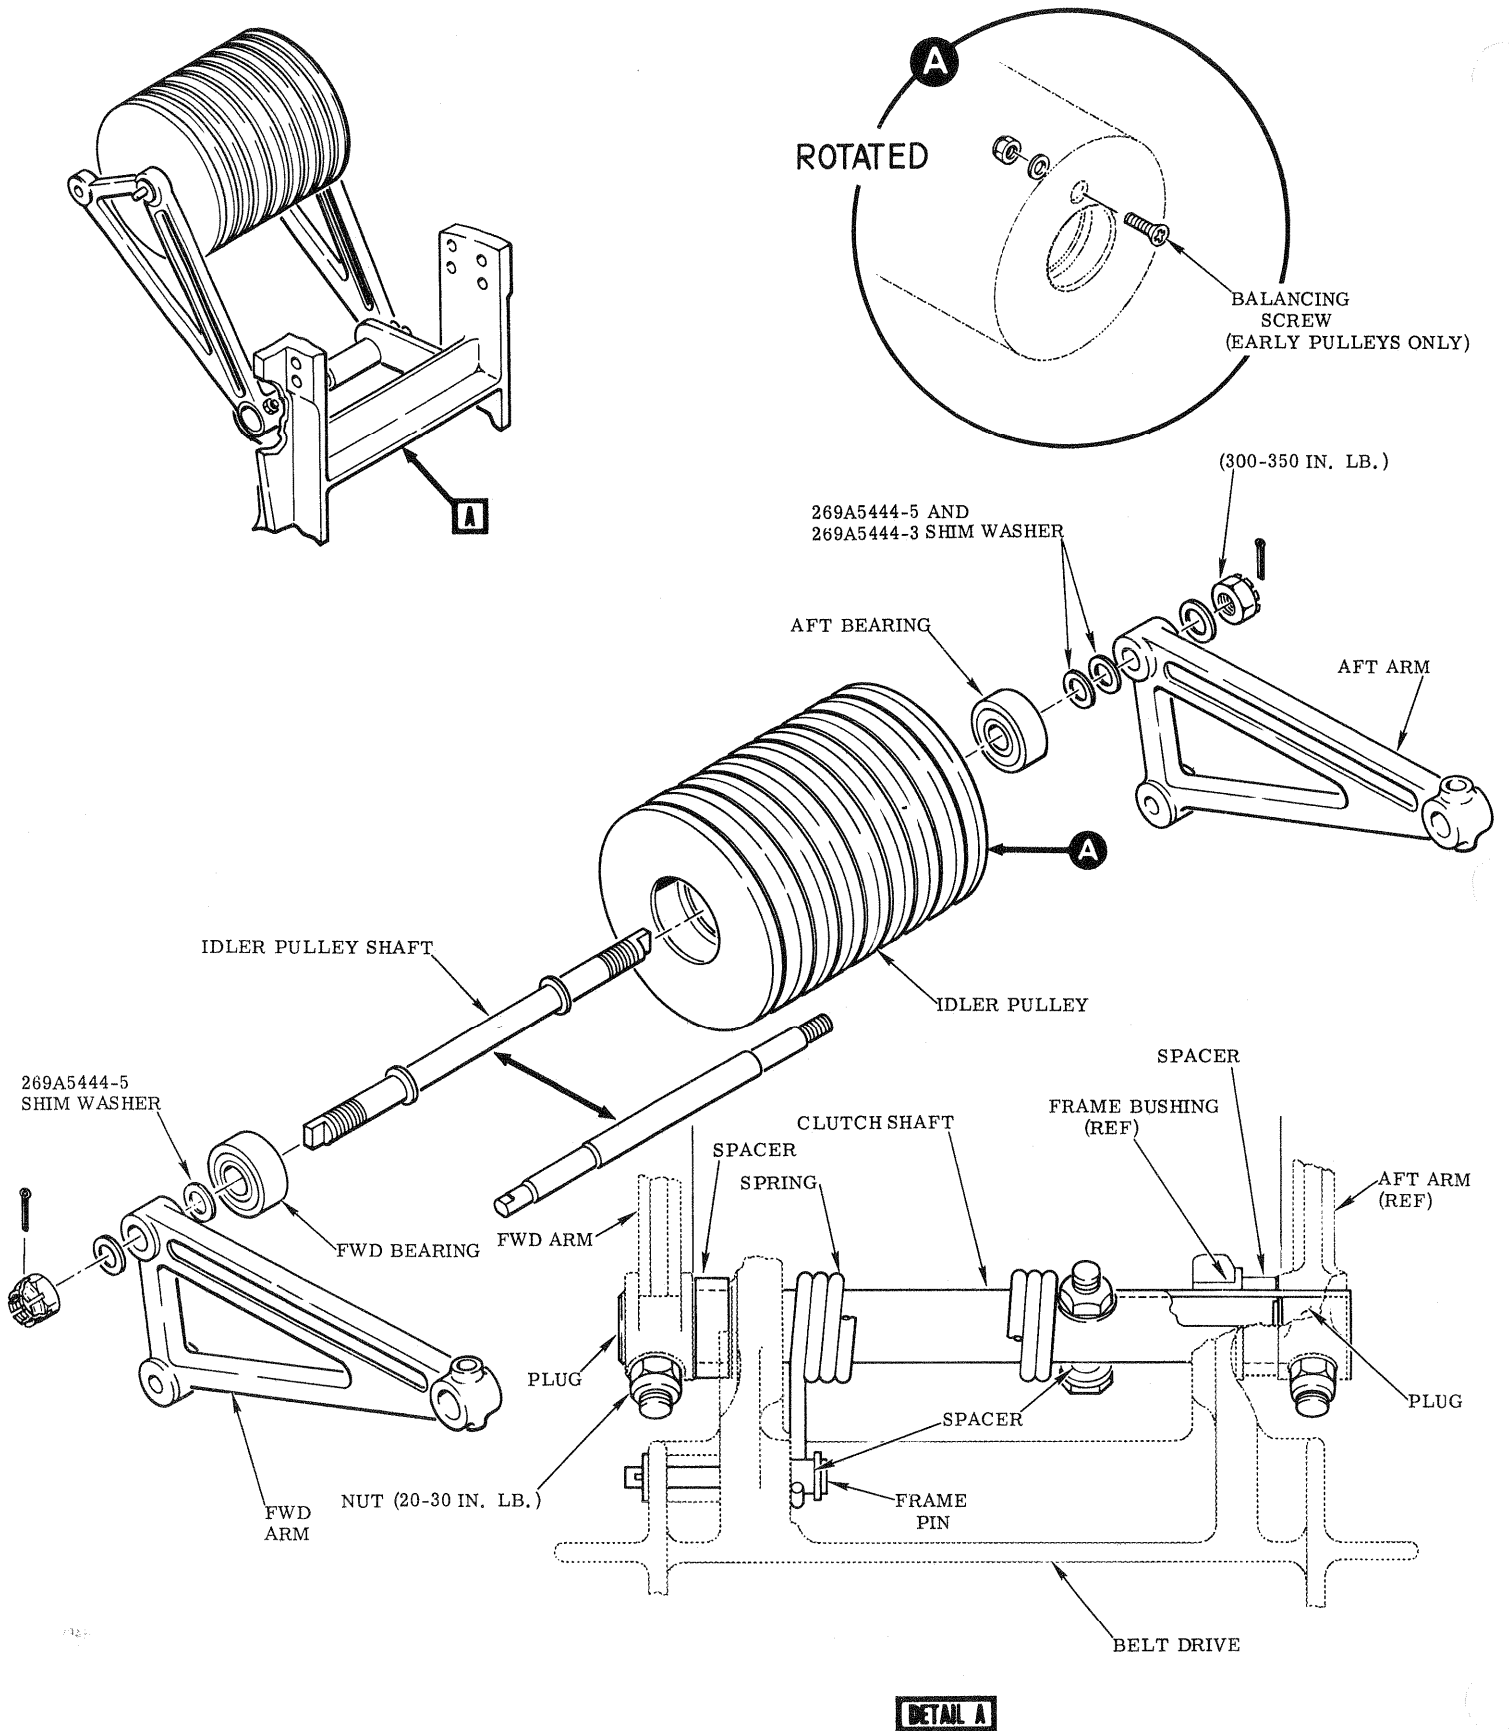

FIGURE 1. IDLER PULLEY CLUTCH ASSEMBLY (SHAFT-MOUNTED DUAL ARM SUPPORT)
- f. Remove cotter pin, nut, washer, and shim washer securing forward end of idler pulley shaft to pulley arm (see Figure 1).
- w. Using arbor press, lightly press first new 269A5050-58 bearing on shaft until inner race is flush with shaft shoulder. Insert shaft and bearing into pulley; press shaft and bearing input pulley until outer race of bearing is fully seated in pulley bore. (See Steps I and II, Figure 1.)
- x. Support installed bearing and pulley on bed of arbor press; slip second new 269A5050-58 bearing and installation sleeve on opposite end of shaft. (See Step III, Figure 1.)